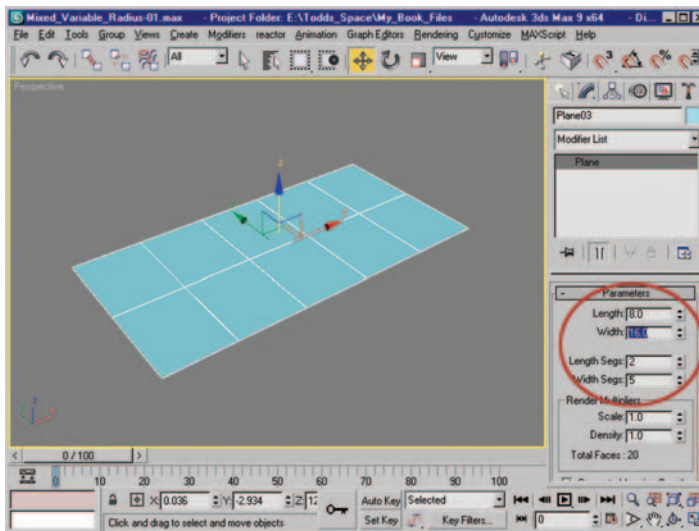

Figure 10.16 Plane primitive with settings highlighted.
1. In the top viewport, make a plane primitive with a length of 8.00 and a width of 16.00 units. Give the plane five width segments and two height segments. Figure 10.16 shows the plane in the perspective viewport and the settings highlighted.